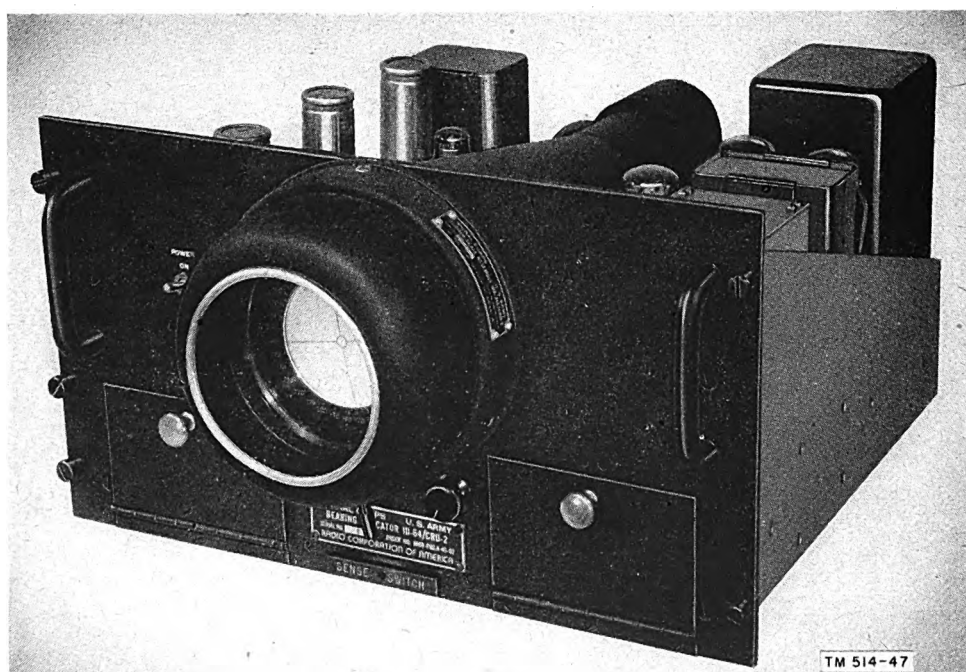

Figure 13. Bearing Indicator ID-64/CRD-2.
c. Bearing Indicator ID-64/CRD-2 (fig. 13) consists of a chassis assembly complete with 18 tubes, including a 5-inch cathode-ray tube, and a control panel. The operating controls, switches, nameplate, and alidade scale assembly (with removable shield) are mounted on the control panel. One a-c receptacle, one auxiliary connector (unused), one bearing indicator channel input connector, and one synchronizing voltage connector are on the rear of the chassis. The bearing indicator fits into the center of Rack MT-332/CRD-2 and is held in place with six thumbscrews. A carrying handle is provided at each end of the front panel. The controls permit electronic orientation of the antenna system, sense determination, and